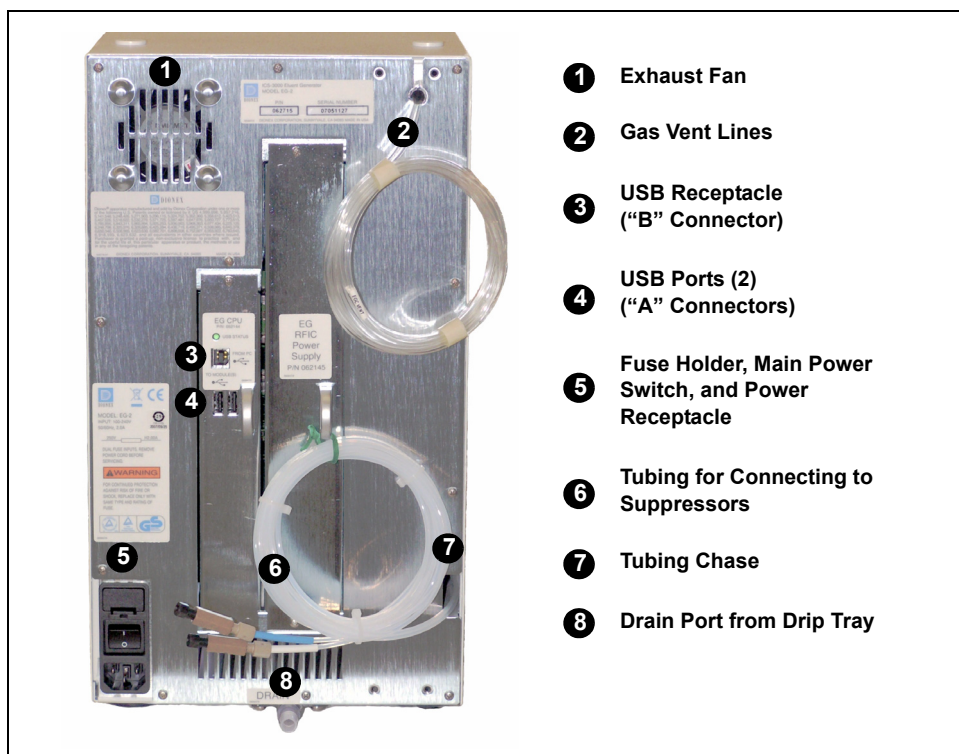

Figure 2-9. EG Rear Panel
Figure 2-9 illustrates the rear panel of the ICS-3000 Eluent Generator (EG).